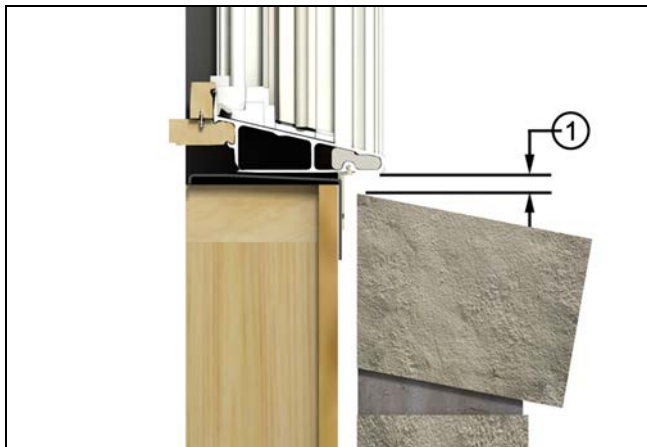

Figure 4 Avoid brick bind, maintain 1/2" gap
NOTE: On standard wood frame construction with brick veneer, make sure there is at least 1/2" (13) between bottom of window sill (or eventual placement of the window) and the top row of brick to avoid "brick bind". See Figure 4.